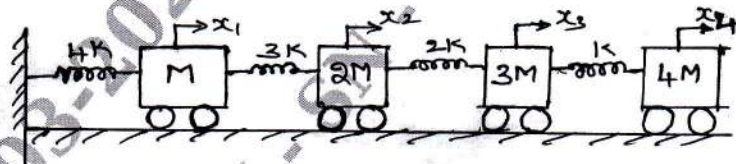

Fig Q9(a)
- 9 a. Determine the lowest natural frequency of the system shown in Fig Q9(a). Using Stodola method.